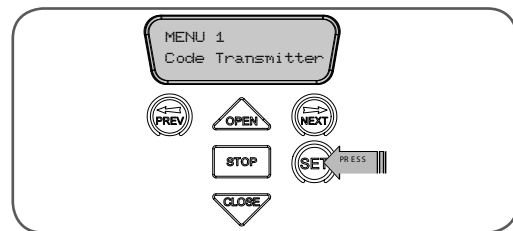

fig 33
1. Press NEXT to navigate to the Menu 1 "Code Transmitter" (**Fig.33**).